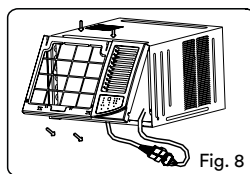

Fig. 8
1. Install the frame and connect the coupler plugs, making sure not to interfere with the temperature sensor cable (See Fig. 8).